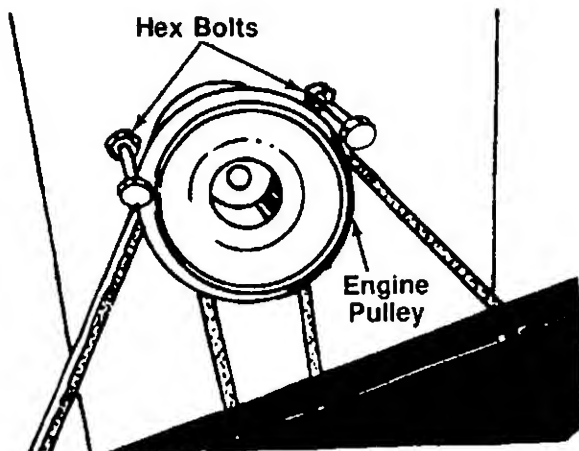

FIGURE 23.
NOTE: *Figures 23 through 25 are shown with the unit tipped up for clarity. It is not necessary to tip the unit to remove the belts.*
3. Remove the hex bolts (belt keepers) from the engine pulley belt guard. See figure 23.
NOTE: When reassembling, make certain hex bolts are assembled in the same locations from which they were removed. See figure 23.